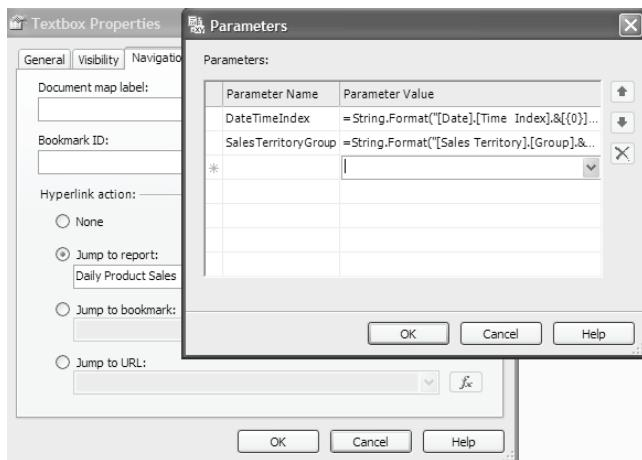

Figure 18.21 Implement report drillthrough by attaching a hyperlink action to a report item.
3. Click the Parameters button and match the parameters of the master report and the drillthrough report (Figure 18.21).